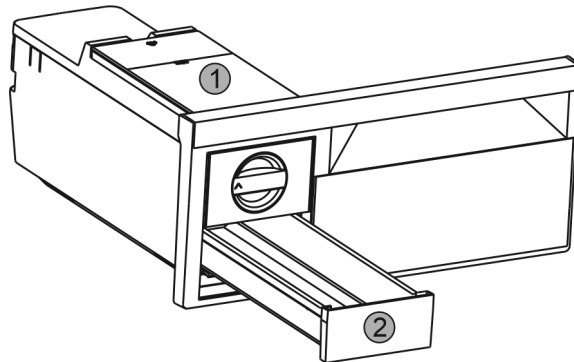

Fig. 36
- ▶ Take out the water tank *Fig. 36 (1)* and ice cube drawer *Fig. 36 (2)*.